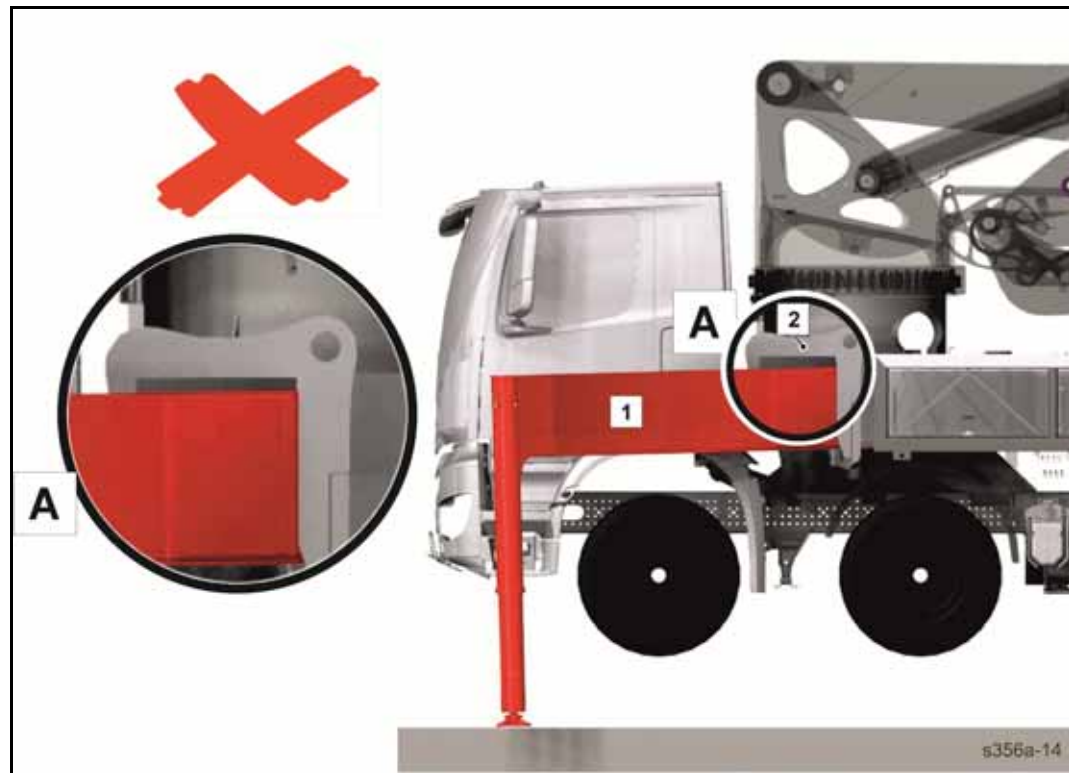
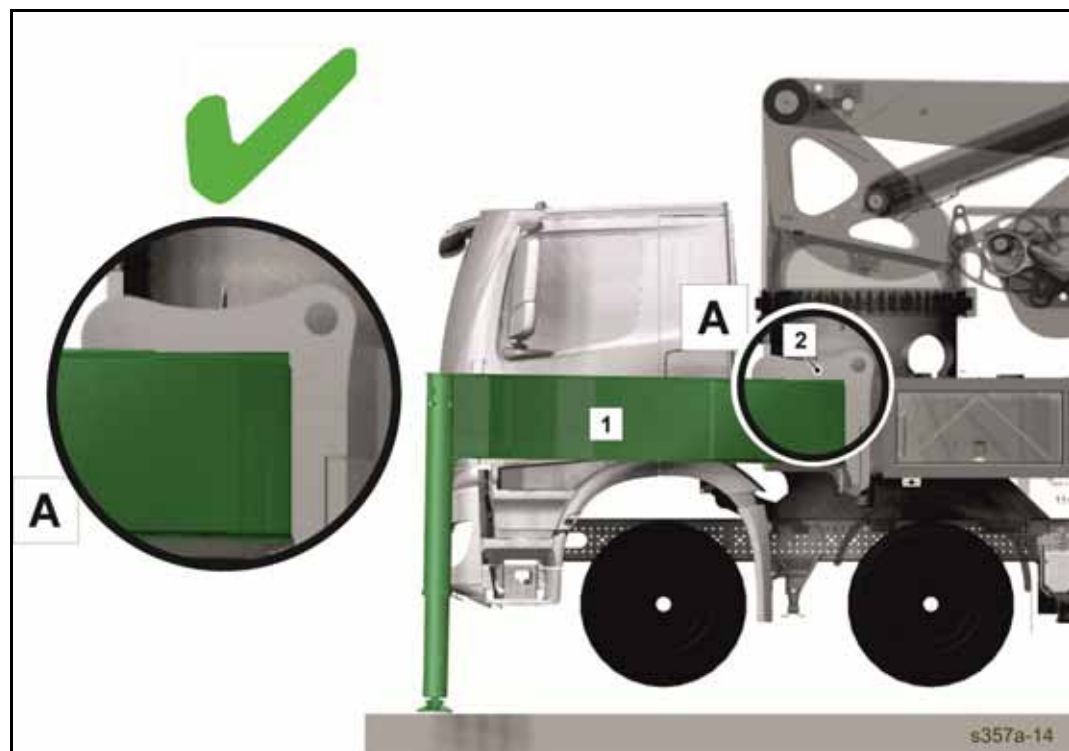

Fig. 138 Attention! Incorrect distance between support and base frame
Fig. 139 Correct distance between support and base frame
Note that there is no space between the supports (1) and base frames (2) after being raised (none of the vehicle wheels are touching the ground), see **(Fig. 138)** and **(Fig. 139)**.